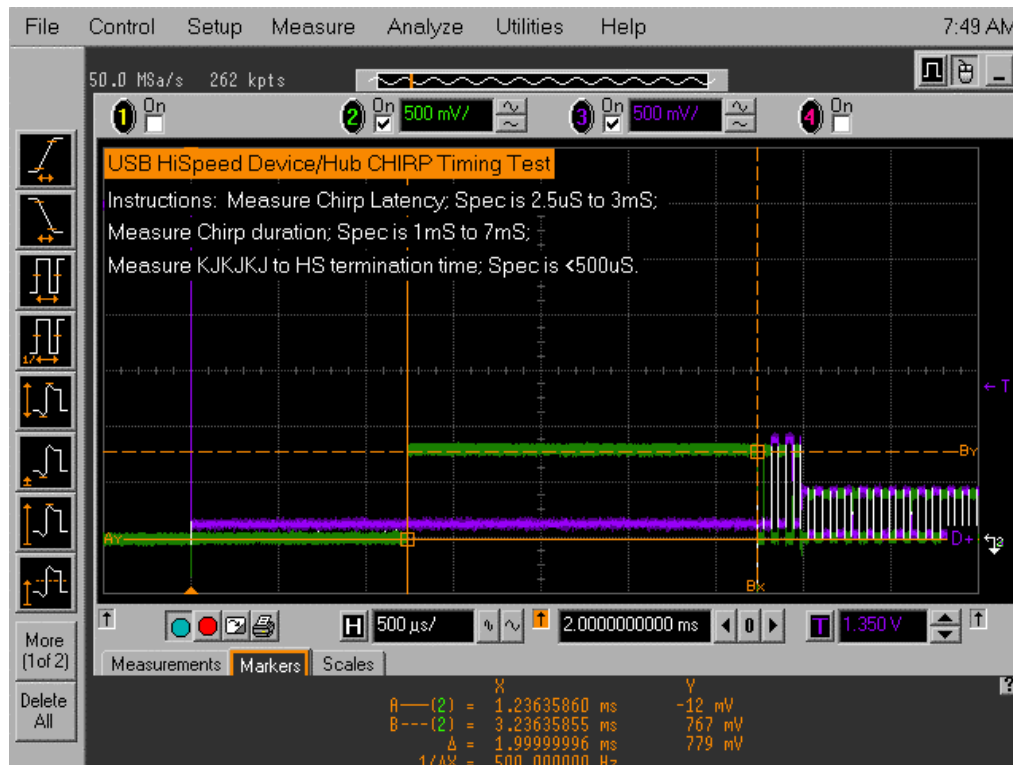

Figure 42. Hub CHIRP-K Duration
- a. This measurement can also be made manually with markers, as shown in Figure 42